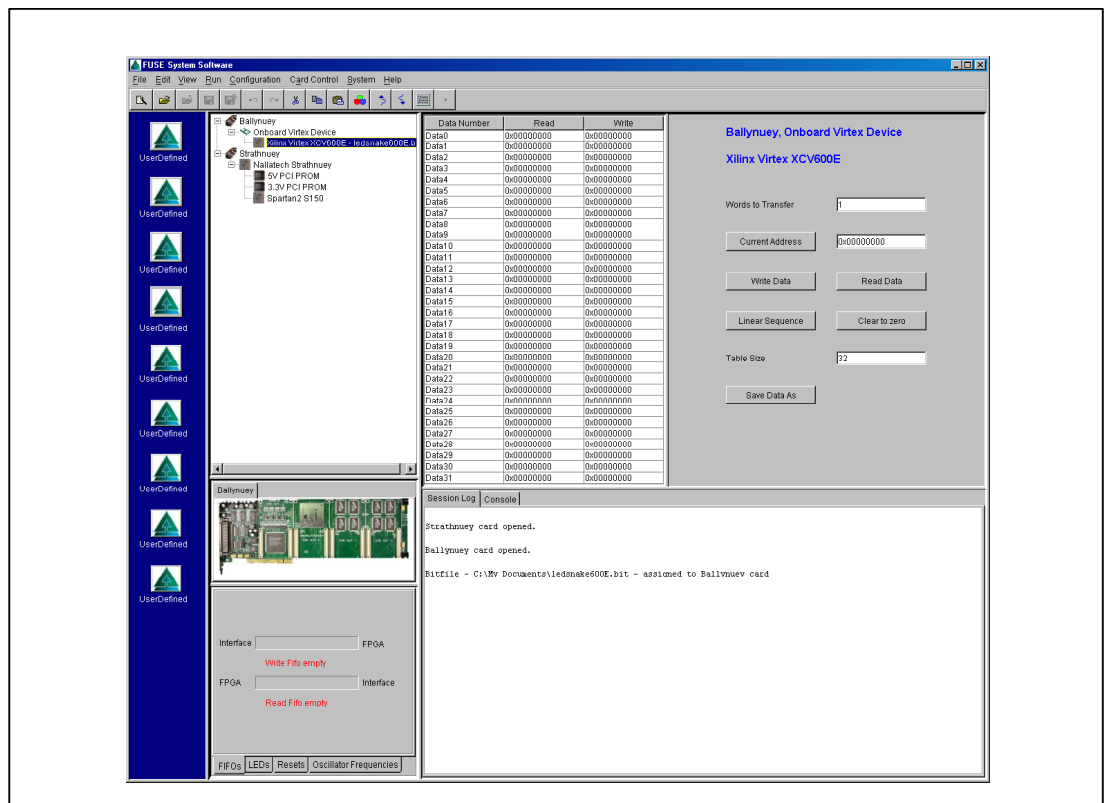

Figure 9: Bit file assigned to FPGA
3. Select "ledsnake600E.bit" and click on **Open**. The bitfile is now assigned to the onboard Virtex XCV600E that was selected in Step 2. When the bitfile is assigned the session log is updated to show that the bitfile has been assigned as shown in Figure 9.